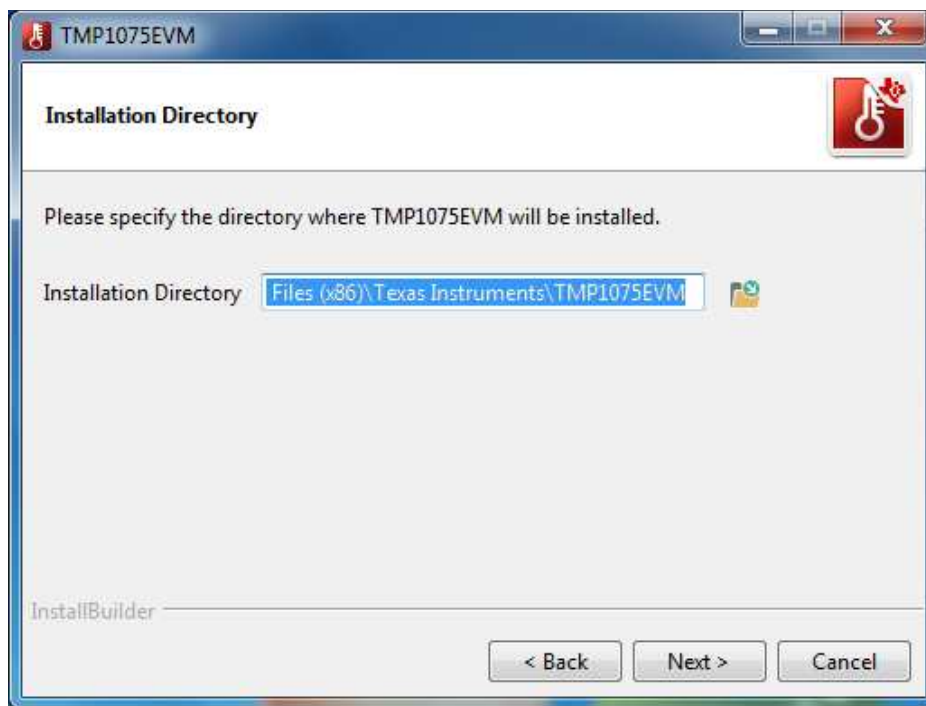

**Figure 5. TMP1075EVM License Agreement**
3. Follow the on-screen instructions by clicking the *Next* button to install the software. The following this option, two license agreements are presented as shown in Figure 5 and Figure 6 that must be accepted. After accepting both the Texas Instruments and National Instruments license agreements, the user is given the choice of selecting the directory to install the program; usually, TI recommends choosing the default setting stored in the *C:\Program Files (x86)\Texas Instruments\TMP1075EVM* path as shown in Figure 7.